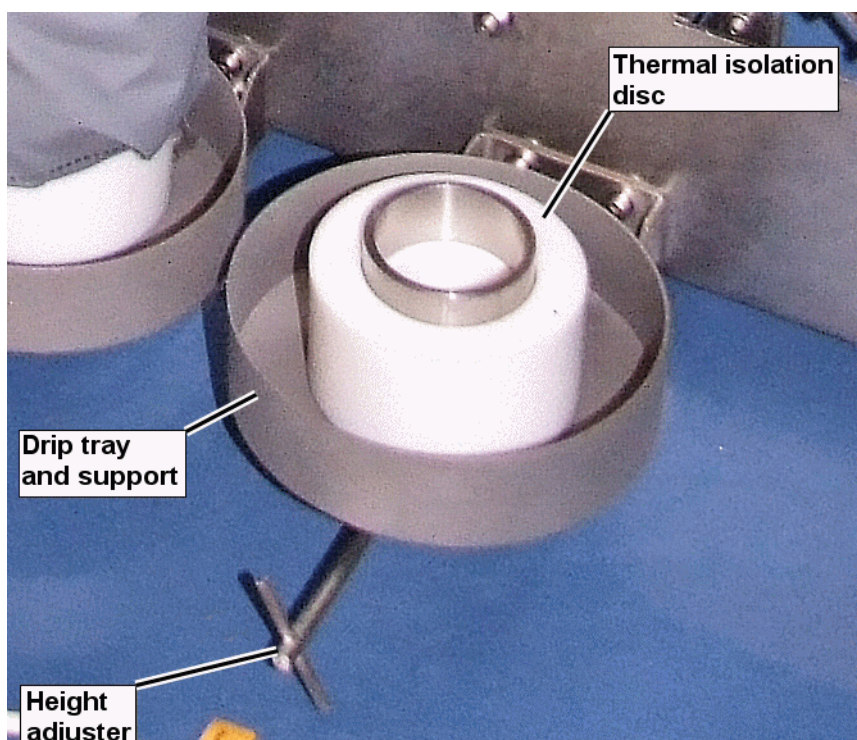

Figure 7-4 Fitting the ampoule
- 5 Place the ampoule on the thermal isolation disc that sits on the height adjustable drip tray (see Figure 7-4).